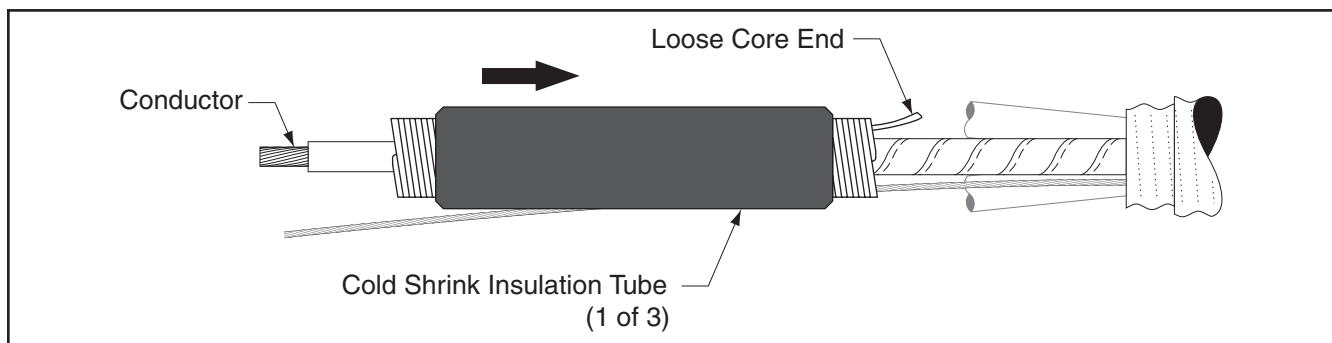

Figure 5
- 2.1 Slide cold shrink insulation tubes onto Cable Y, one per conductor, loose core ends first, until the cable semi-con is visible (*Figure 5*).